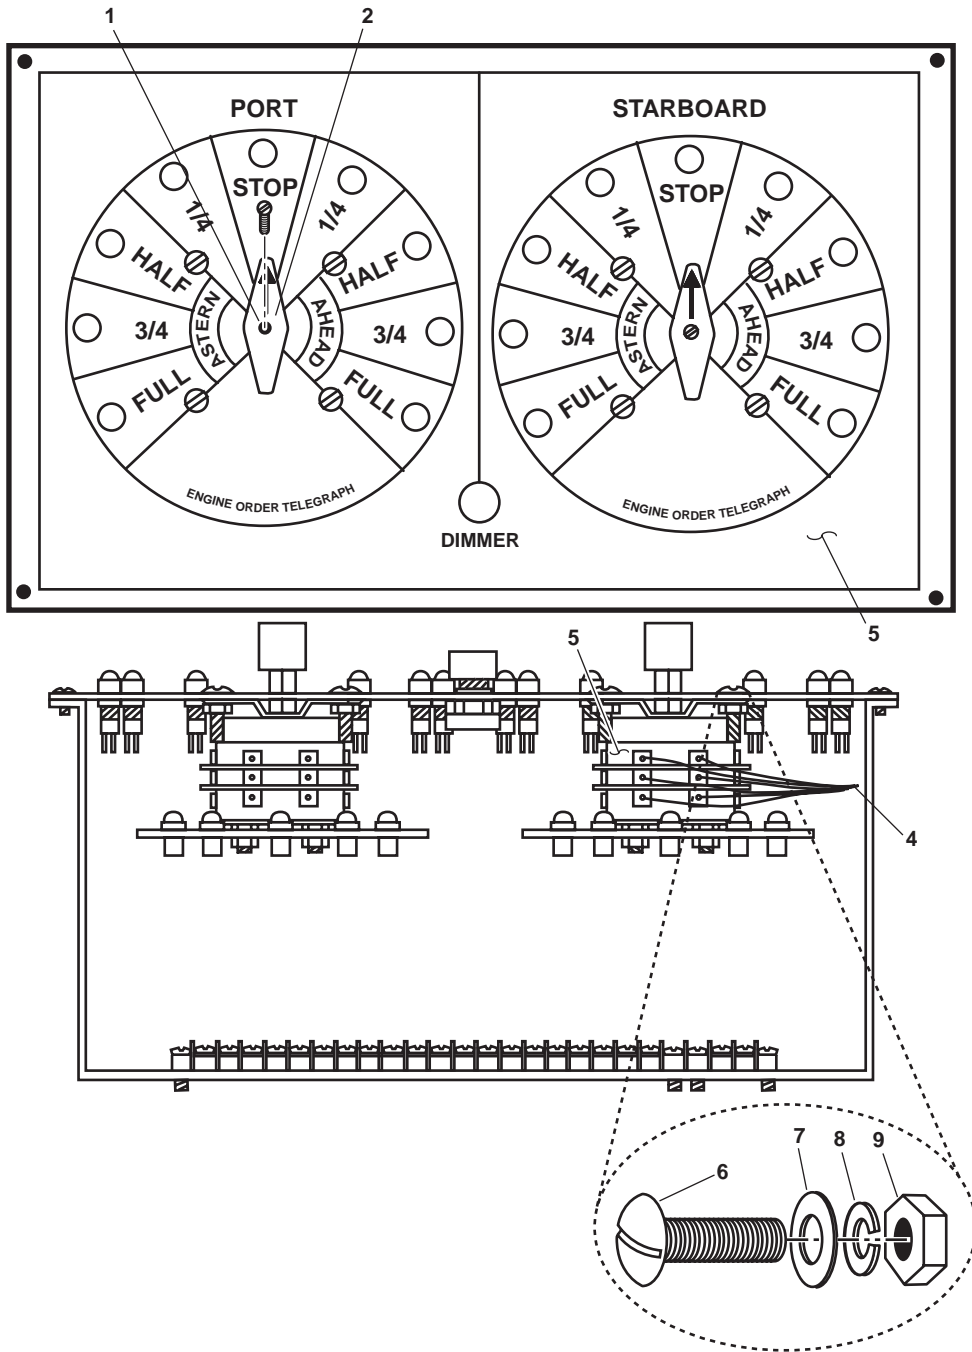

Figure 1. Engine Order Telegraph (EOT) Panel Repair (Typical)
1. Remove the screw (figure 1, item 1) and the switch knob (figure 1, item 2) from the EOT panel (figure 1, item 3).
2. Label and disconnect the electrical wiring (figure 1, item 4) from the applicable rotary switch (figure 1, item 5) to be replaced.
3. Tilt the panel (figure 1, item 3) up and remove the four mounting screws (figure 1, item 6), four flat washers (figure 1, item 7), four lockwashers (figure 1, item 8), and four nuts (figure 1, item 9). Discard the lockwashers.
4. Remove the applicable rotary switch (figure 1, item 5) from the panel (figure 1, item 3).
1. Tilt the panel (figure 1, item 3) up and install the applicable rotary switch (figure 1, item 5) using the four mounting screws (figure 1, item 6), four flat washers (figure 1, item 7), four new lockwashers (figure 1, item 8), and four nuts (figure 1, item 9). Tighten the four mounting screws (figure 1, item 6).
2. Connect the electrical wiring (figure 1, item 4) to the rotary switch (figure 1, item 5).
3. Position the switch knob (figure 1, item 2) on the shaft of the rotary switch and secure with the screw (figure 1, item 1).